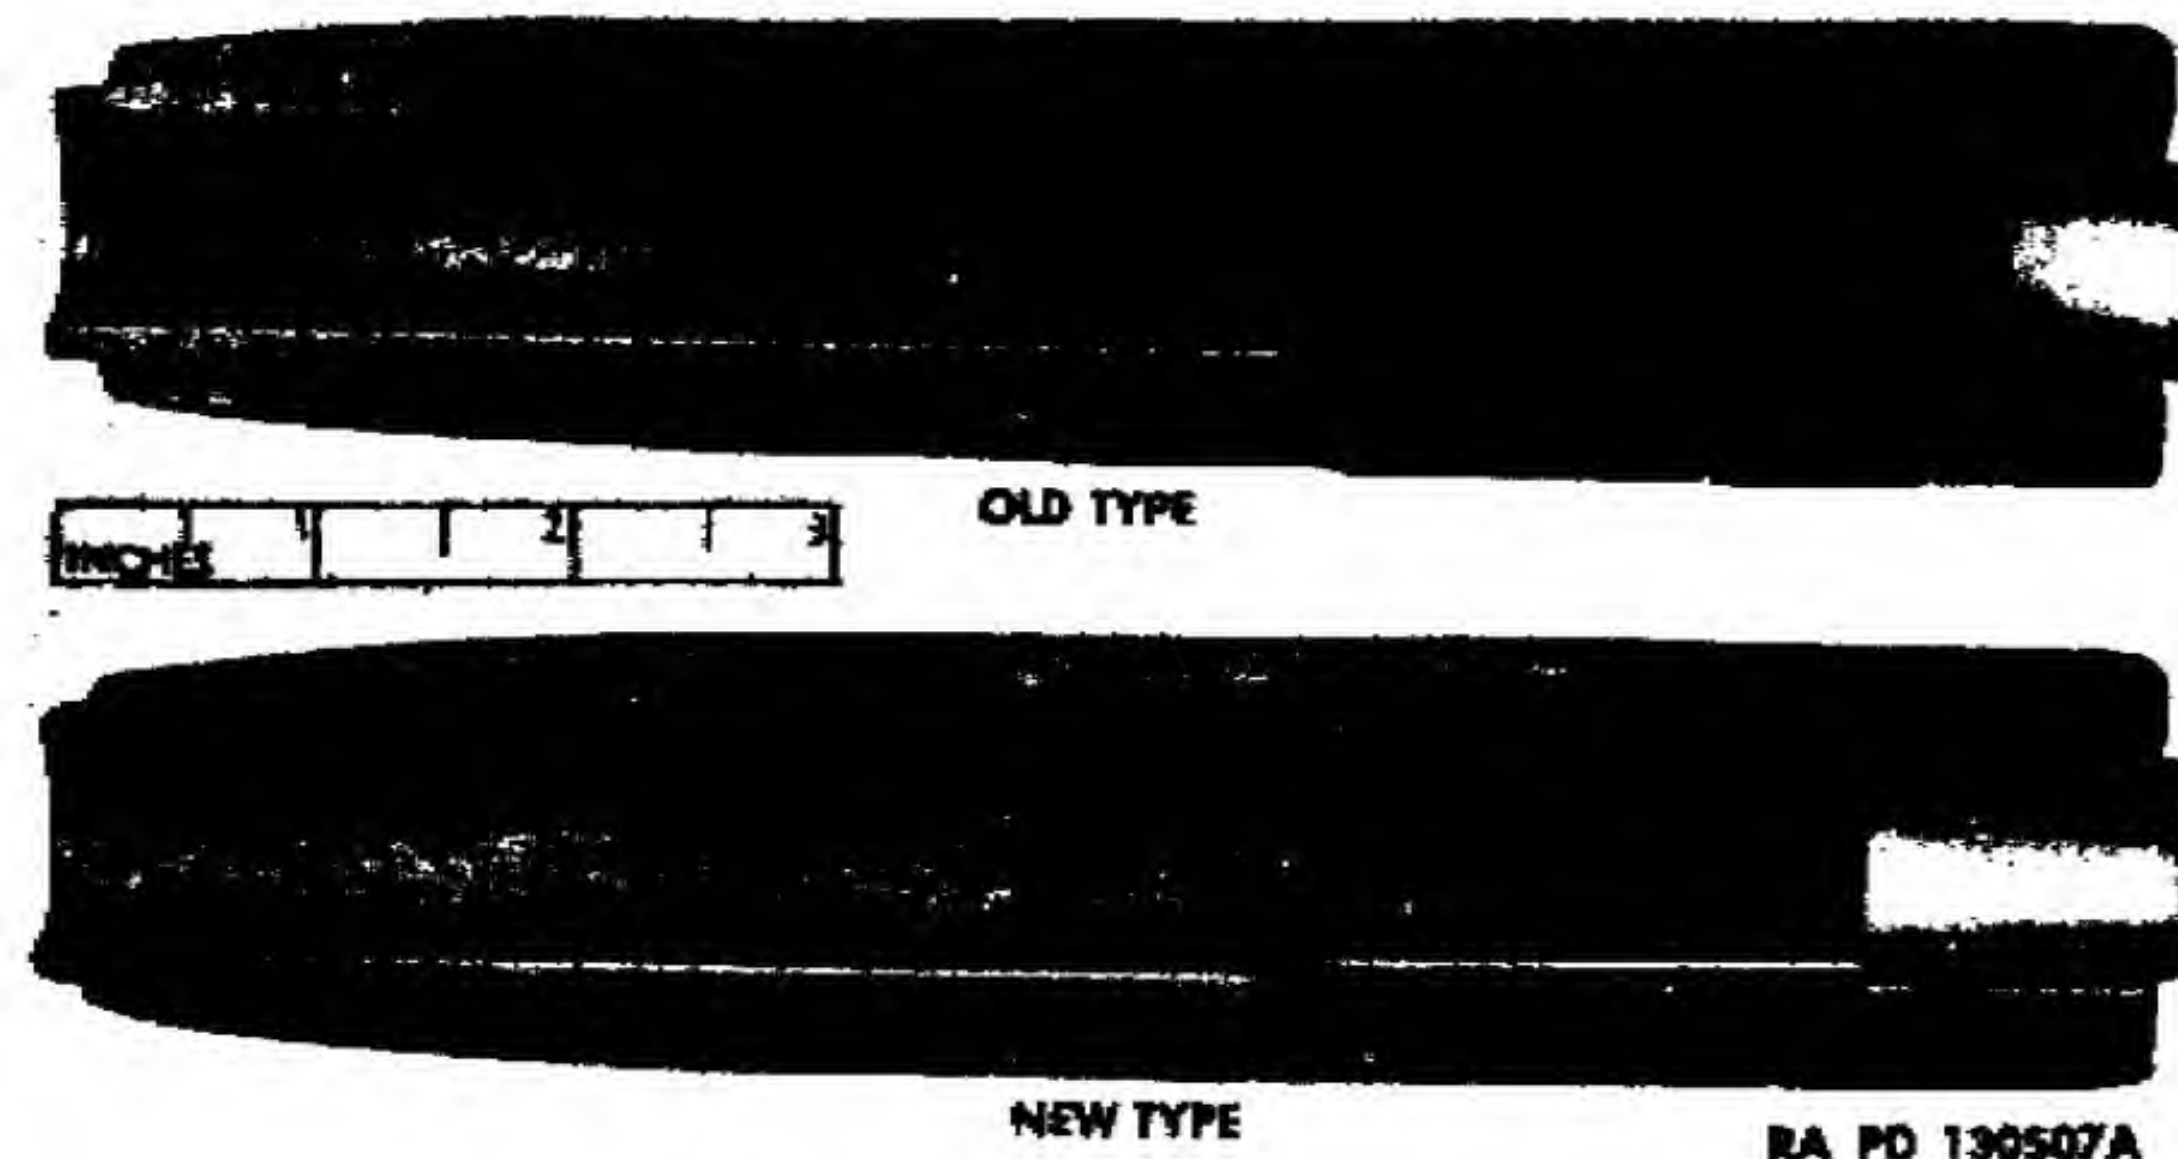

Figure 100. Hand guard assembly 6212602.
*h. Hand Guard Liner.* Check to assure that liner in hand guard assembly is not distorted and is securely fastened to hand guard. Liners with two rivets or with four rivets, if serviceable, may be used on carbines M1 and M1A1. Only the four-rivet type hand guard assembly 6212602 is to be used on the carbines M2 and M3 (fig. 100).